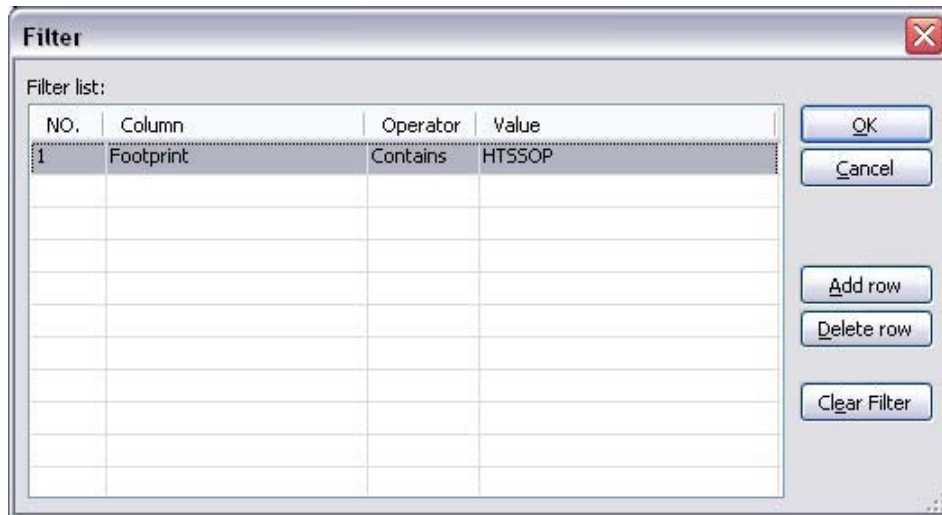

Figure 2. Filtering footprints.
5. Configure the **Filter** window as shown in **Figure 2**.